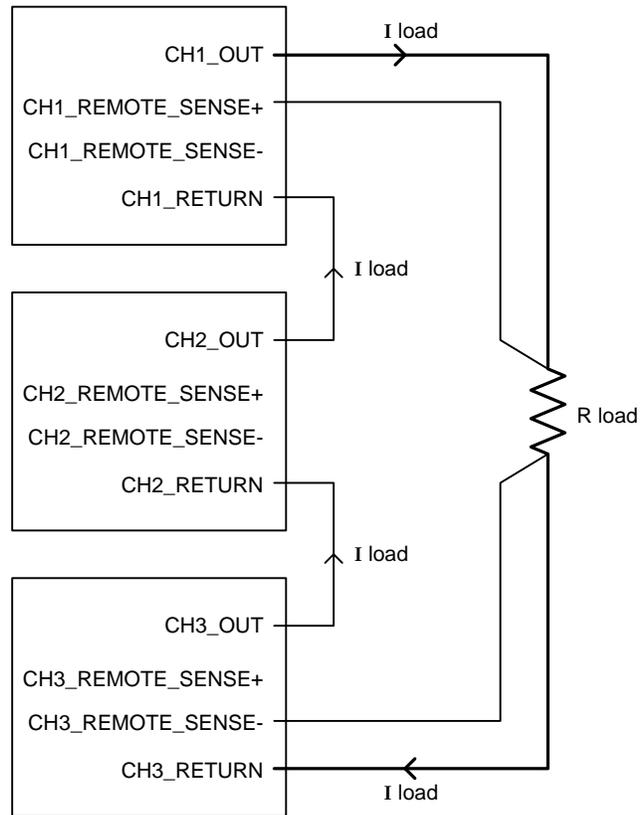

FIGURE 6-15: USING THE SENSE LINES WITH CHANNELS CONNECTED IN SERIES
- When connecting several channels *in series*, the only the sense lines that need to be connected to the load are the ones from the first and last channels in the series. See Figure 6-15.